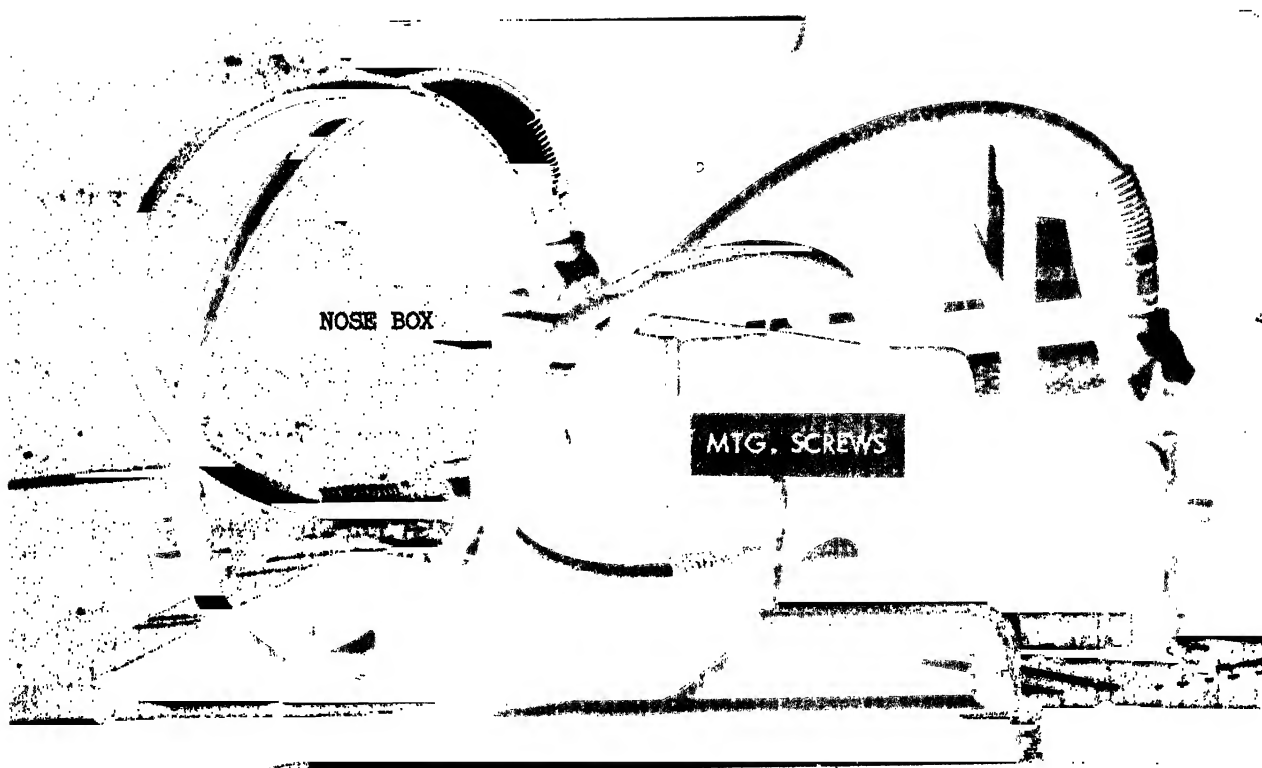

FIGURE 45
- a. Removal. Refer to Fig. 45 and remove the nose box.
- c. Installation. Refer to Fig. 45 and install the nose box.